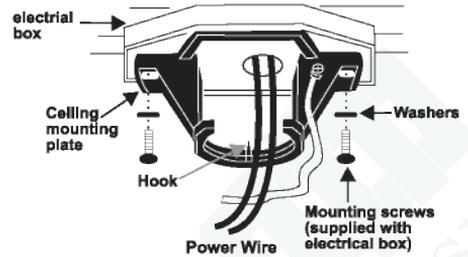

Fig.3
Step 1. Pass the supply wires through the center hole in the ceiling hanger bracket as shown in Fig.3